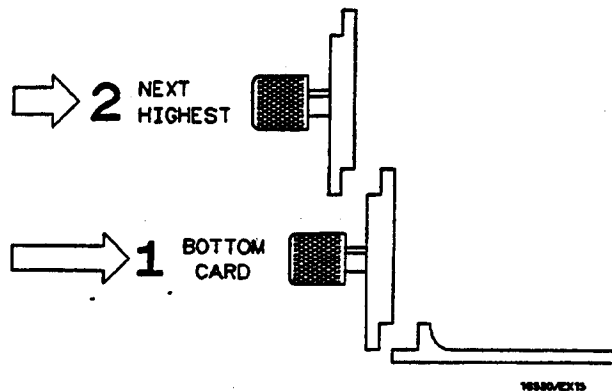

Figure 2-3. Endplate Overlap
- h. Repeat for all cards and filler panels in a bottom to top order. See figure 2-3.